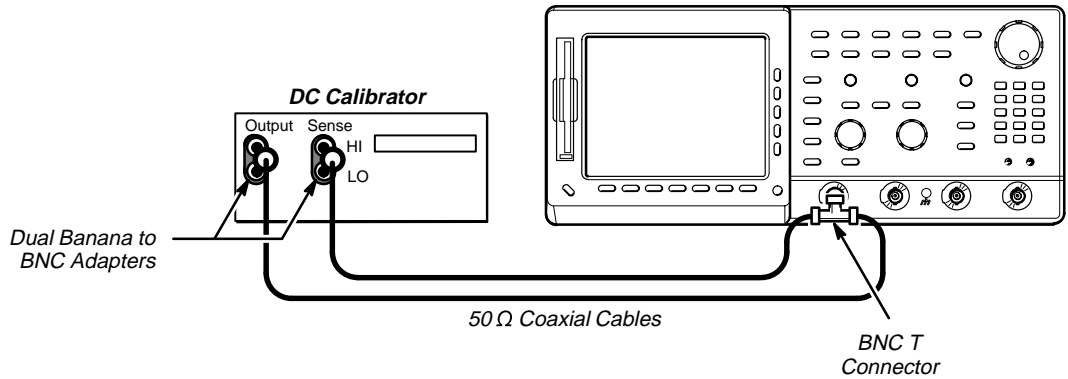

Figure 1-5: Initial Test Hookup
1. *Install the test hookup and preset the instrument controls (see Figure 1-5):*